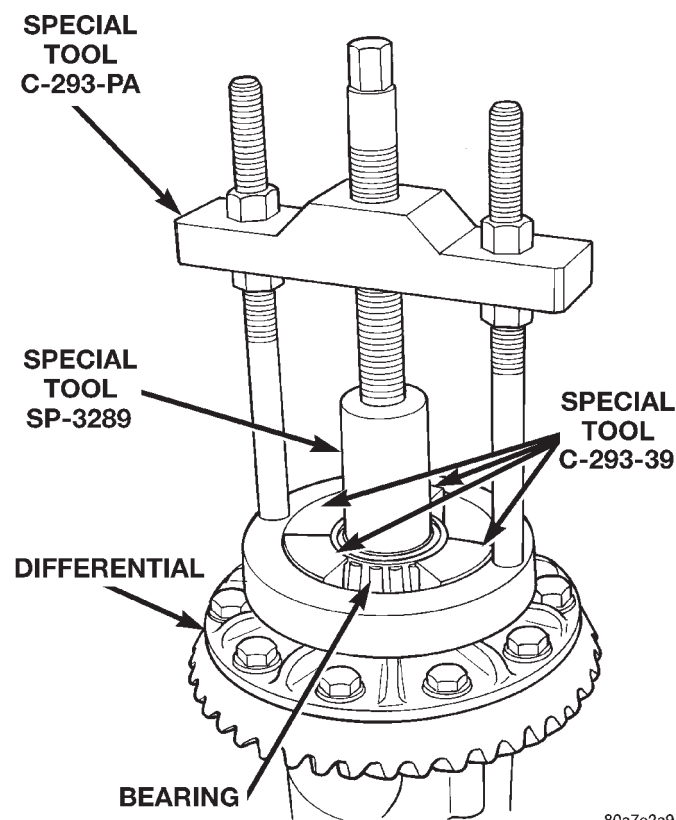

Fig. 37 Differential Bearing Removal
(2) Remove the bearings from the differential case with Puller/Press C-293-PA, C-293-39 Blocks, and Plug SP-3289 (Fig. 37).